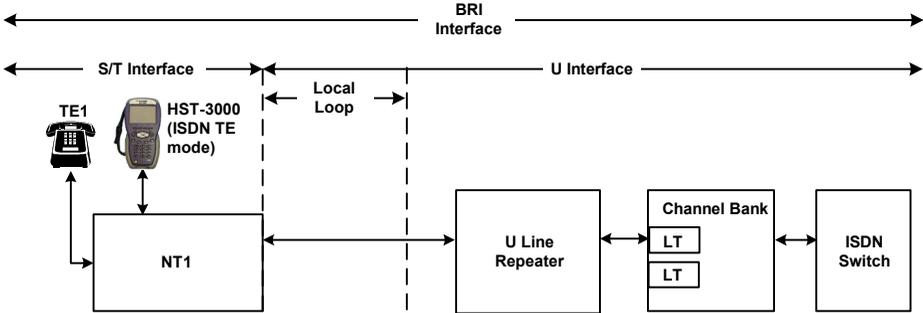

Figure 3 ISDN TE mode for the S/T Interface
S/T interface The S/T interface is the standard 4-wire (2 RX, 2 TX) interface used by ISDN terminals on the terminal side of a NT1. In **ISDN TE mode**, the HST emulates a TE device, allowing you to place circuit and packet calls on the S/T interface (see Figure 3).
- Emulating a TE device on the S/T interface (see Figure 3 on page 6).